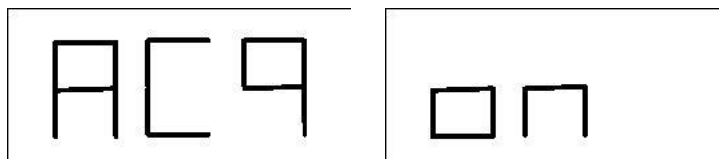

Fig. F3.10 - “Balancing planes acquisition enabled” message
2. Select the plane balancing acquisition mode by pressing [P2]  until the writing ACq is viewed on the left display as shown in figure F3.10. When the machine is switched on, the acquisition mode is set by default ;